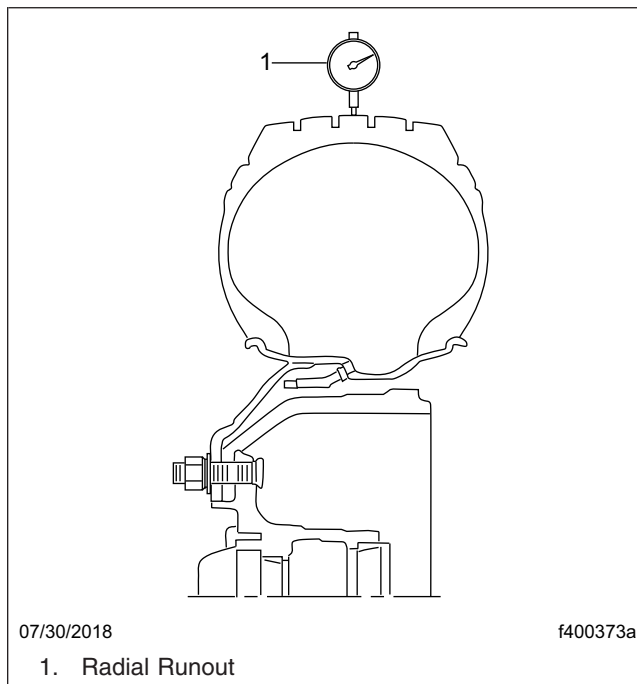

Fig. 11, Radial Runout Check for Tires
4. Beginning with the right-front wheel, use a tire runout gauge to check the radial runout. See Fig. 11. Write down the measurement for later use to avoid vibration complaints.